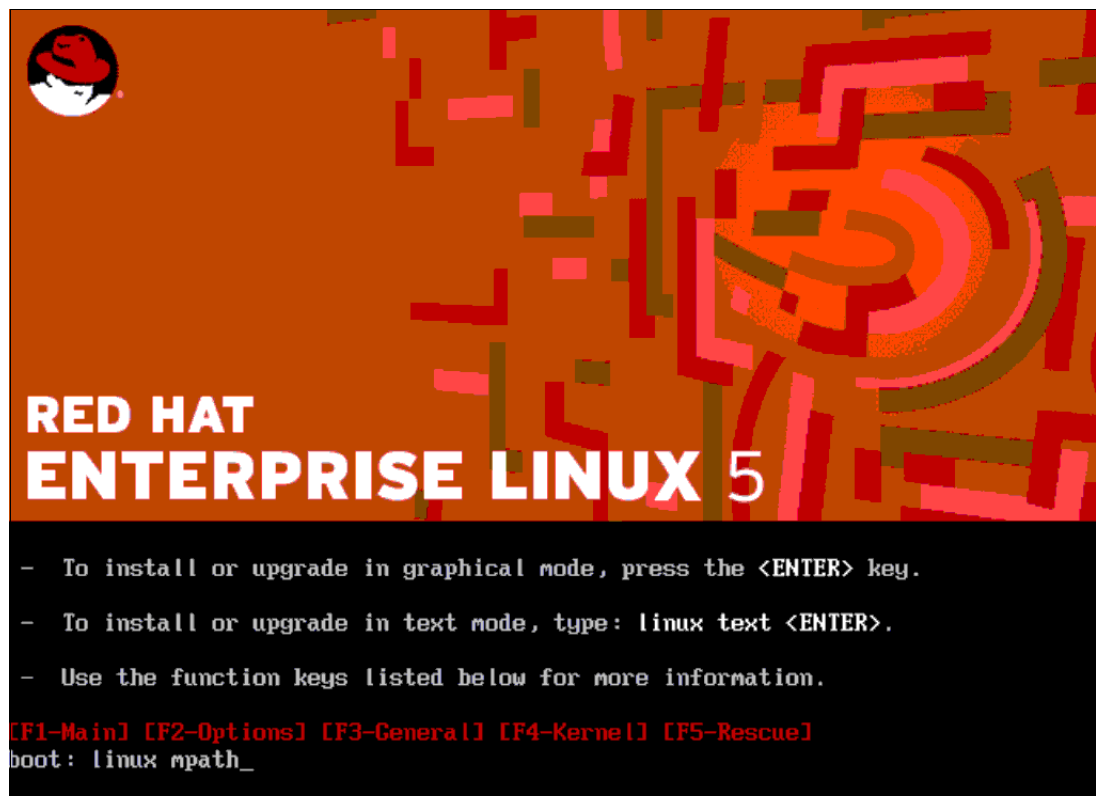

Figure 6-43 Welcome panel
2. A welcome panel is displayed, as shown in Figure 6-43. To enable the multipathing feature at the time of install, we type `linux mpath` at the kernel boot line.